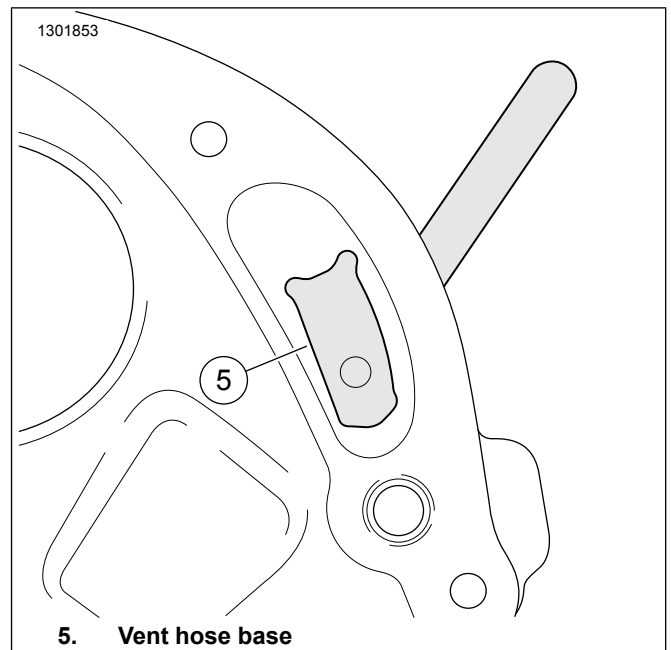

Figure 4. Vent Hose Position
- a. See Figure 4. Base of vent hose (5) should be properly aligned in case pocket.